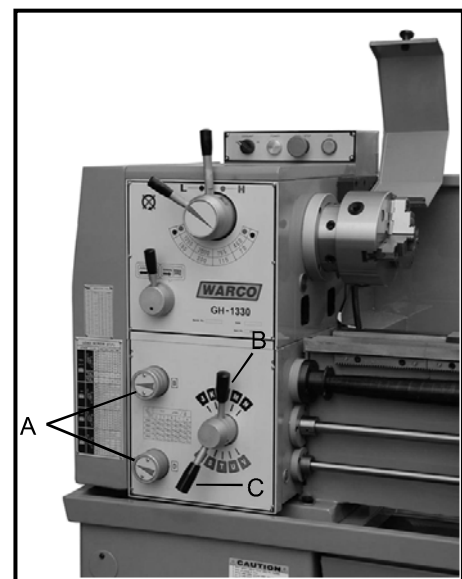

Fig. 22
2. Set the carriage feed/thread selector (B, Fig. 22) to the "P" position to start the feed rod rotating.
1. Set feed rate selectors (A & C, Fig. 22) in proper position for the correct feed rate of the thread pitch to be cut.
2. Move carriage feed/thread selector (B, Fig. 22) lever to the proper position (lead screw will start to rotate).